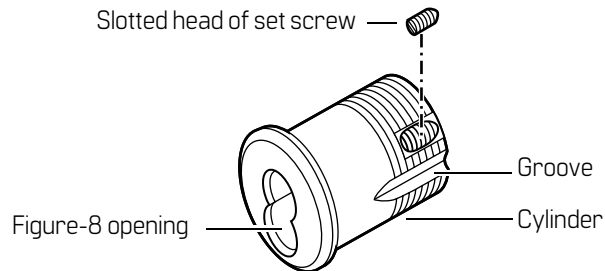

Figure 5.3 Threading the set screw
- a. From the outside of the cylinder, thread the slotted head of the set screw into the cylinder. See Figure 5.3.
7. Tighten the cylinder set screw, found on the inside of the lock case, into the cylinder groove (see Figure 5.3 for the location of the cylinder groove). See Figure 5.6.